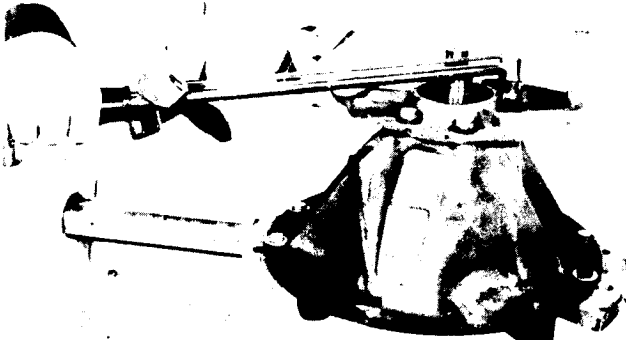

FIG. 71
6. Temporarily install pinion bearing retainer without seal or gasket on differential carrier assembly. Secure with bolts and lockwashers and tighten to specified torque (Fig. 71).